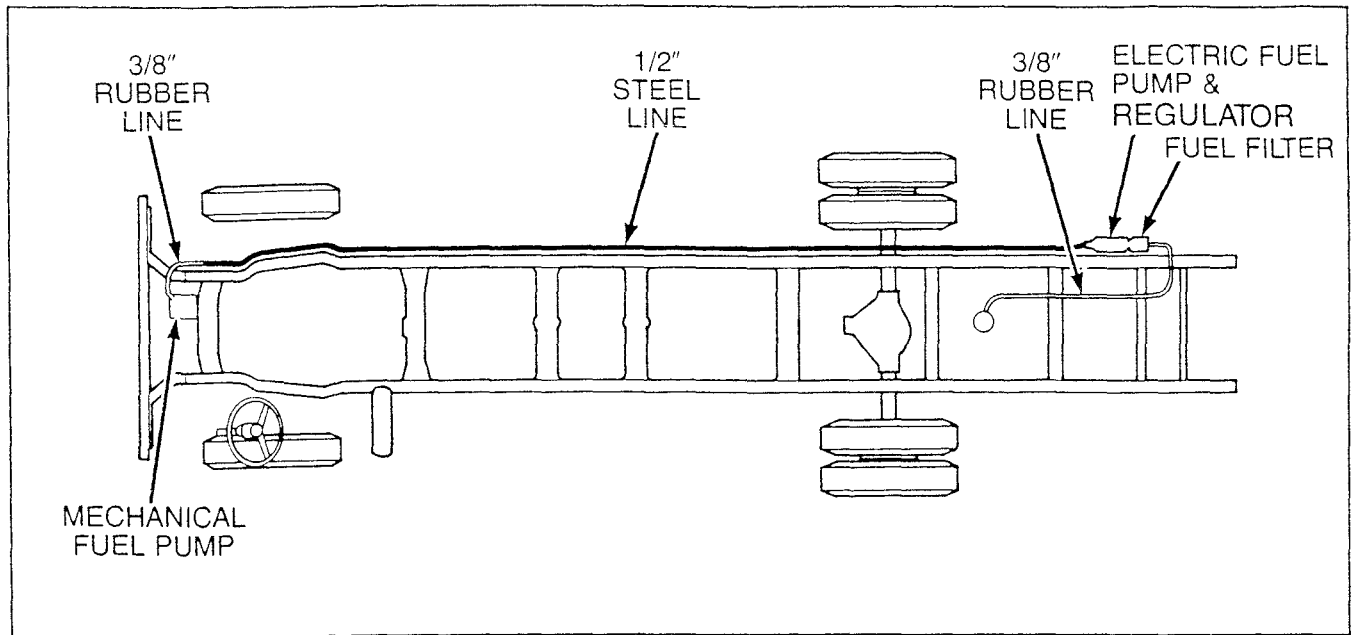
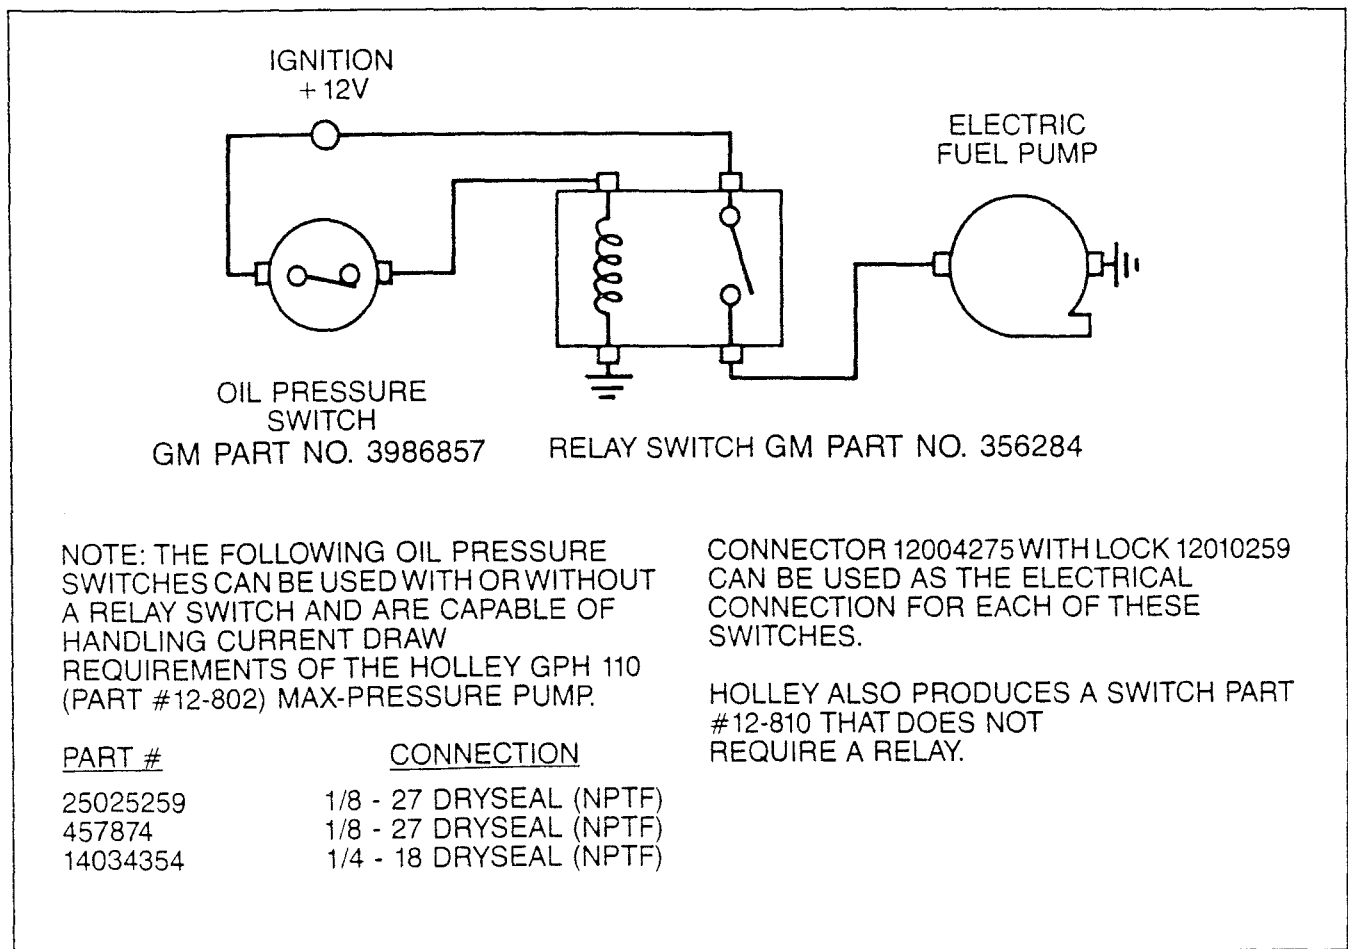

Figure A7-6-2 — 1984 Recommended Field Fix
Figure A7-6-3 — Electric Fuel Pump/Oil Pressure Switch Relay
- A one-half inch steel fuel line mounted on the outside of the frame rail, protected against rub and chafe (see Figure A7-6-2).
- An electric fuel pump mounted off the frame at the tank using an adjustable regulator set to 5 PSI at engine idle measured at the mechanical pump inlet (see Figure A7-6-2). Best success was obtained with the Holley Fuel Pump (No. 12-802) that includes a regulator and has ample volume for this engine (see Figure A7-6-3).
- Power for the electric fuel pump should be controlled through a relay or special oil pressure switch to assure shut-down in the event of vehicle upset (see Figure A7-6-3). Consideration could be given to a manual priming override in the event the system has totally run out of fuel. Normal starts would occur with the fuel remaining in the carburetor and upon starting as oil pressure came up the special switch or relay and would turn on